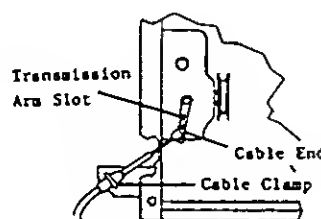

FIGURE 11B
8. If the steering levers will not rest against the front edge of the notch in the seat lid, the cables must be repositioned to prevent cable breakage. To correct, loosen the cable clamp at the base bracket (see Figure 11B) and pull the cable away from the transmission arm as far as possible and retighten the clamp. If the steering lever still will not bottom out in the notch, the
10. To make the machine drive in a straight line, loosen the bolt on the cable end at the transmission arm on the side that the tractor veers toward. Slide the cable end forward in arm slot 1/8 to 1/4 inch and retighten bolt (see Figure 11B). Test drive machine again to check if further adjustment is needed. Once the machine is driving straight, you will need to repeat Steps 4 through 5 to reset neutral.